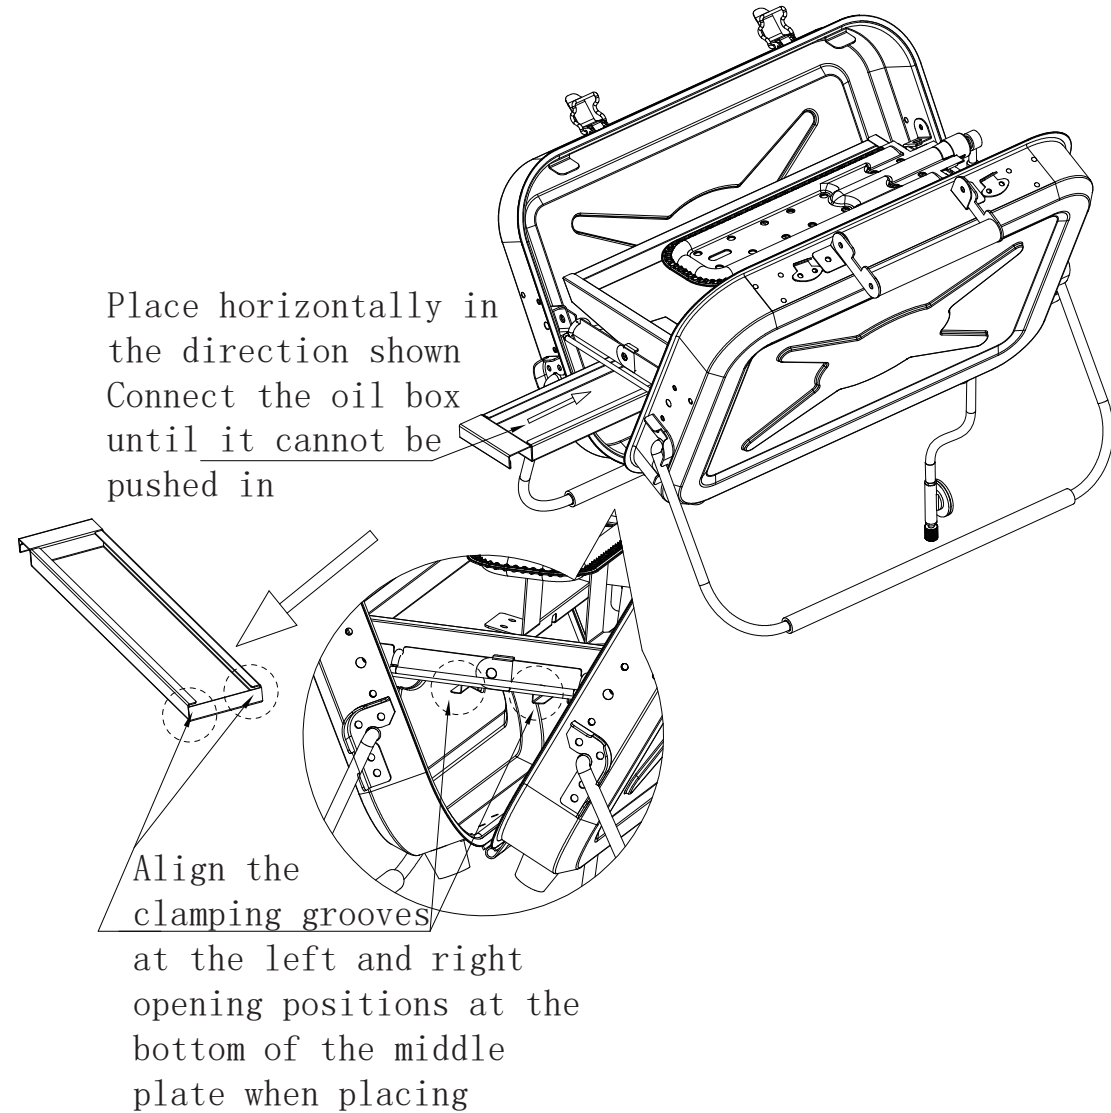

FIG7
- (5) Place the oil receiving box as shown in Figure 7.